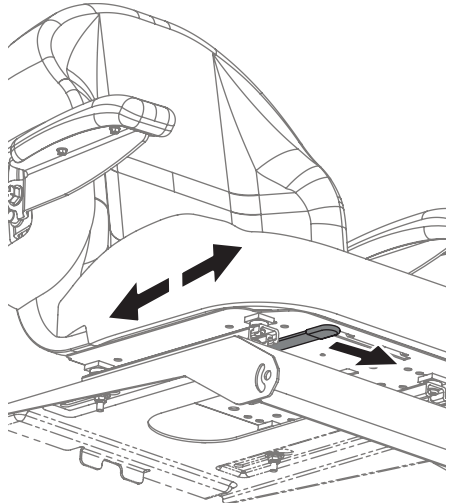

Figure 18
3. Release the adjustment lever. Ensure seat is locked into position before operation. See Figure 18.